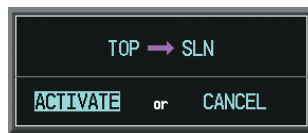

Figure 5-115 Confirm Active Leg
- c) Press the **ACT LEG** Softkey. The confirmation window is now displayed as in Figure 5-115. Note the TOP to SLN leg is actually part of V4.